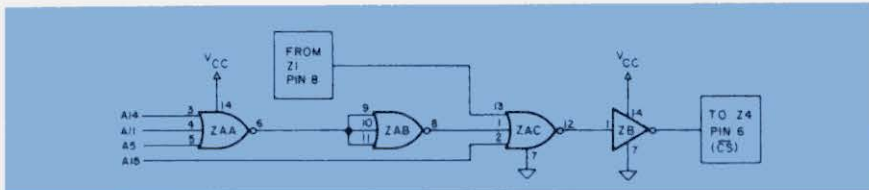
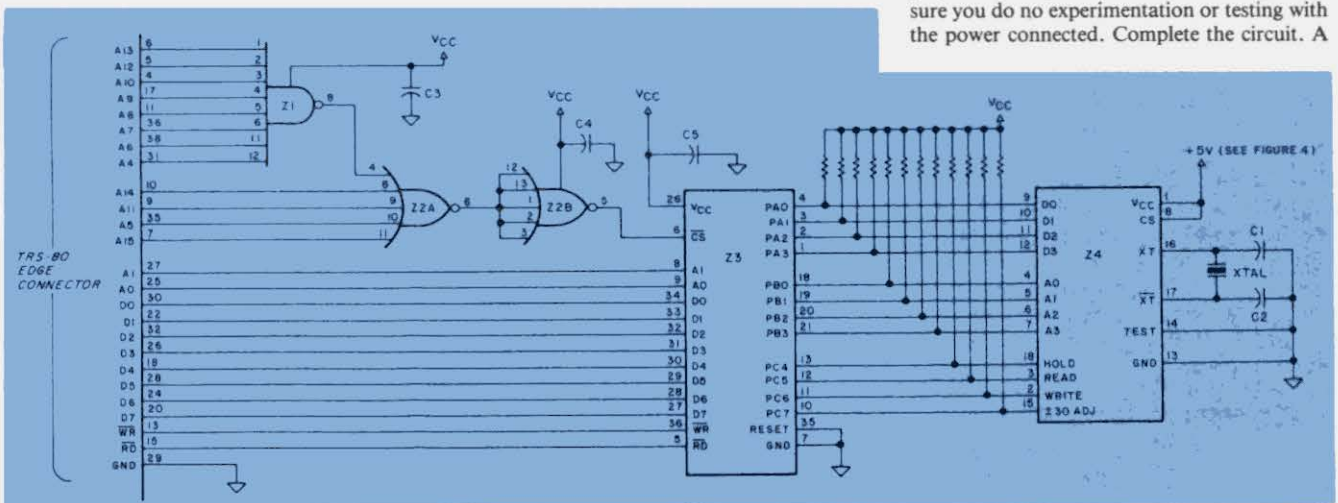
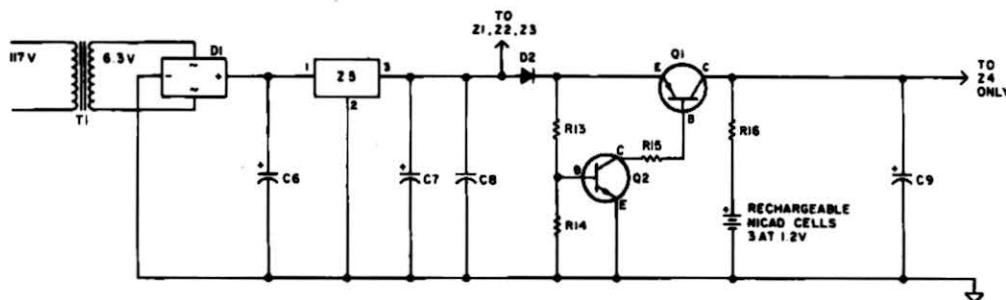

Fig. 2. Real-time Clock Using MSM5832 Clock/Calendar
Fig. 3. Real-time Clock Using MSM5832 with Alternate Circuit to Replace 74LS260
Fig. 4. Power Supply with Battery Backup
The clock chip provides just about all the features we might need: time in hours (12 or 24-hour format), minutes and seconds; month, day and year (even leap year); and day of the week. Beyond the basics, the MSM5832 can provide timing signals to the computer 1,024 time per second, once per second, once per minute, or once per hour. A battery backup of just 2.2 volts will keep it timing when the rest of the system is off. Fig. 2 presents the complete timekeeping circuit for the TRS-80. (Since 74LS260's were in short supply when this article was being prepared, Fig. 3 is an alternate for that part of the circuit.)
Besides, in the near future this column will present a way of adding 2K of your home-programmed ROM to the system from 3000H to 37CFH. So we will place the clock at 37D0H, 37D1H and 37D2H, out of the way of the operating systems mentioned above, and just below the cassette, printer and disk addresses. In Fig. 2, Z1 and Z2 do the decoding work, permitting our access to those 13 addresses only (See Table 1 for details).
- 6 Use Fig. 3 when 74LS260s are out of stock everywhere you call.
ply) and ground in both circuits. These should be mounted as close as possible to their respective integrated circuits so they can filter out extraneous signals caused by fast-switching ICs. The pull-up resistors (R1 to R12 in Fig. 2) are essential to the operation of the MSM5832. See Fig. 4 for a diagram of the power supply with battery backup for the MSM5832 clock.